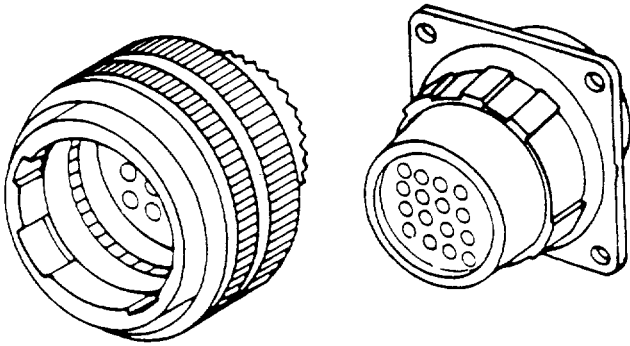

Figure 11. Typical Breech Coupling
18. **Breech Lock.** The breech lock system (Figure 11) is similar to the bayonet system except solid lands and grooves are utilized instead of bayonets. Coupling requires a 90 degree clockwise twist to couple.